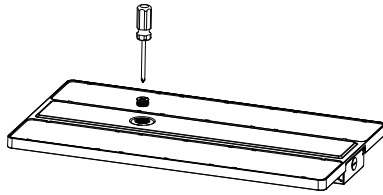

Figure 6
Step1. Use a screwdriver to remove the 1/2 plug from the sensor; (Figure 6)